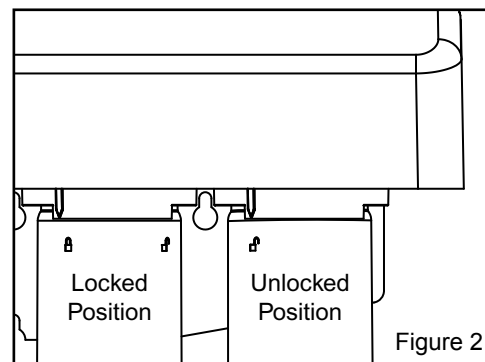

Figure 2
2. Twist the cartridge to lock it into the manifold. See Figure 2.